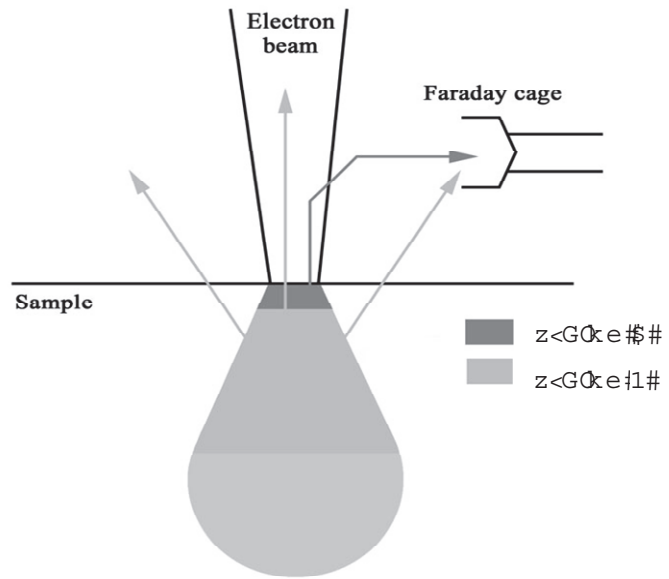

Figure 3: Imaging mode of SEM
- (b). Explain the most commonly used SEM imaging modes using electron at region A and B shown in Figure 3.